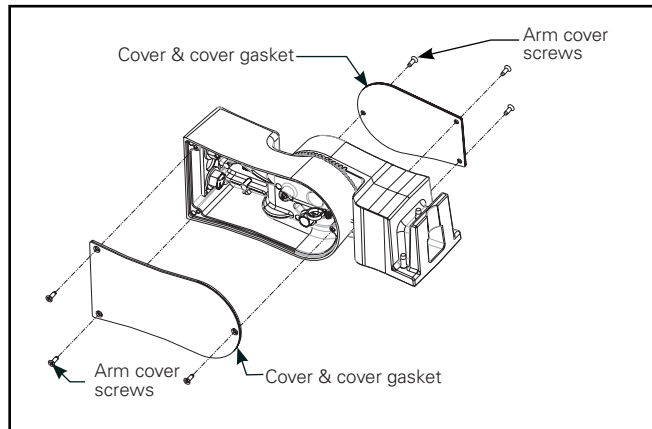

Figure 9.
1. Loosen six arm cover screws to remove the two access covers from the arm. Save hardware. (Figure 9.)